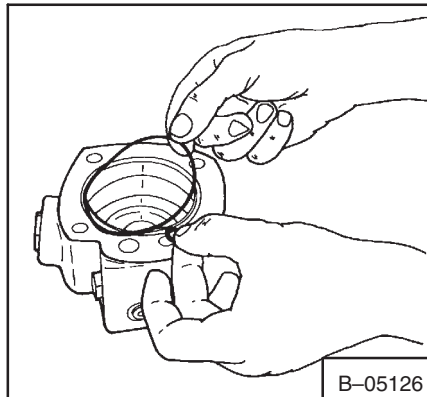

**Fig. 3-37** Removing The Valve Housing
3. Lift the valve housing (Fig. 3-37) straight up. If done carefully, the springs and balance plate will stay on the valve.